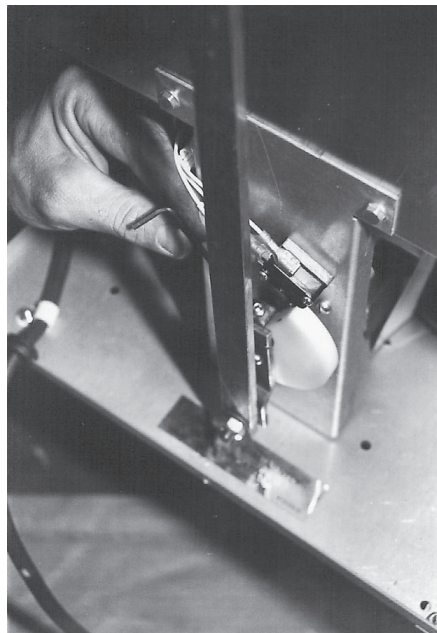

Fig. 72
3. With an allen wrench loosen the cam set screw. (Fig. 72)